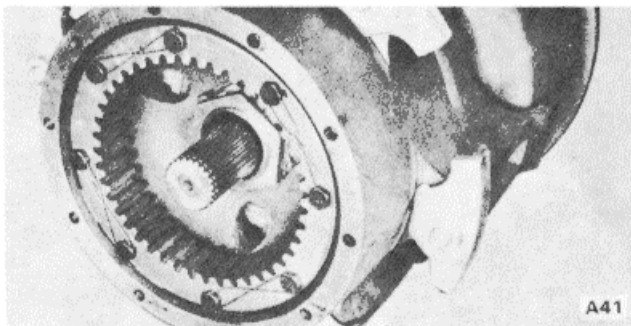

Figure 9C-28. Installing Nut
14. When proper pre-load is achieved install adjusting nut lock and jam nut. Tighten jam nut to a higher wrench torque than the adjusting nut. Recheck rolling torque. Pre-load must not be greater than highest value in Table 9C-1, "No-load rolling torque" value. Bend two tangs of nut lock on flats of inner nut and two tangs on flat of jam nut, Figure 9C-28.
15. Use Permatex No. 2 on planetary assembly. Assemble planetary assembly to wheel hub, Figure 9C-29. Install axle shaft sun gear and retaining ring.